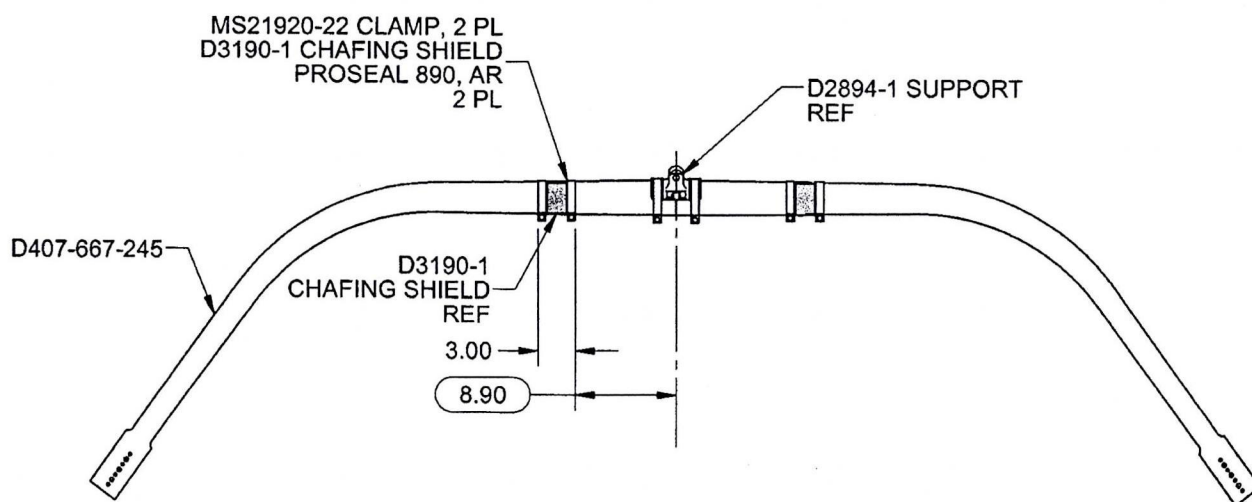

Figure 2 - Correct D3190-1 Chafing Shield Placement
4. Install the D3190-1 Chafing Shields in accordance with Paragraph 32.8 of ICA-D206-667 and Figure 2 of this Service Bulletin.